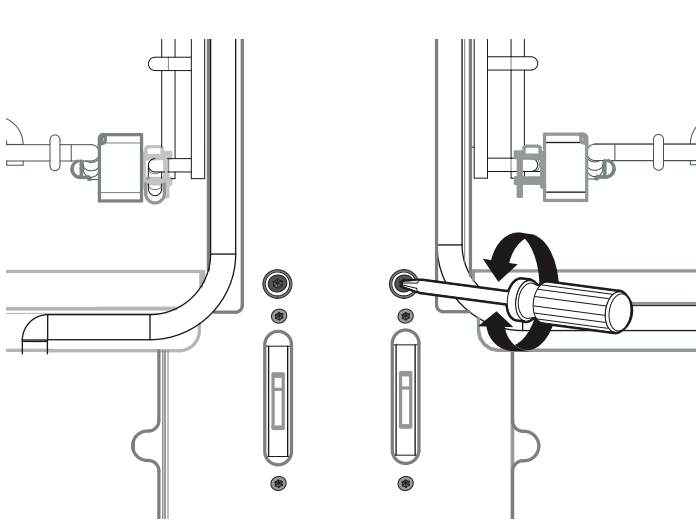

Figure 10: Hinge Receiver Adjustment Screw
4. For 48” models with large and small ovens, if door or handle appears slightly tilted, you may adjust the hinge receiver by rotating the large Torx-head screw located directly above the hinge receiver with a T-20 Torx driver. Rotate each screw respective to its side and direction the door needs to be adjusted (*Figure 10*).